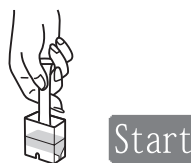

Fig.3
5. Draw the whole cell sample into the tube. Press <Start> at the same time. (Fig.3)